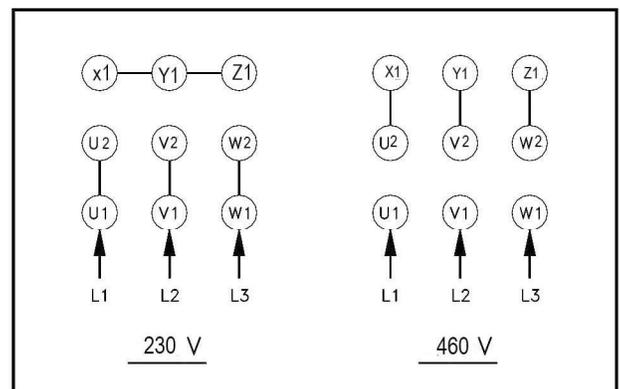

Figure 9-2: Oil pump wiring
2. Remove oil pump motor junction box cover, and change incoming leads for oil pump, based on diagram shown in Figure 9-2. Reinstall cover.